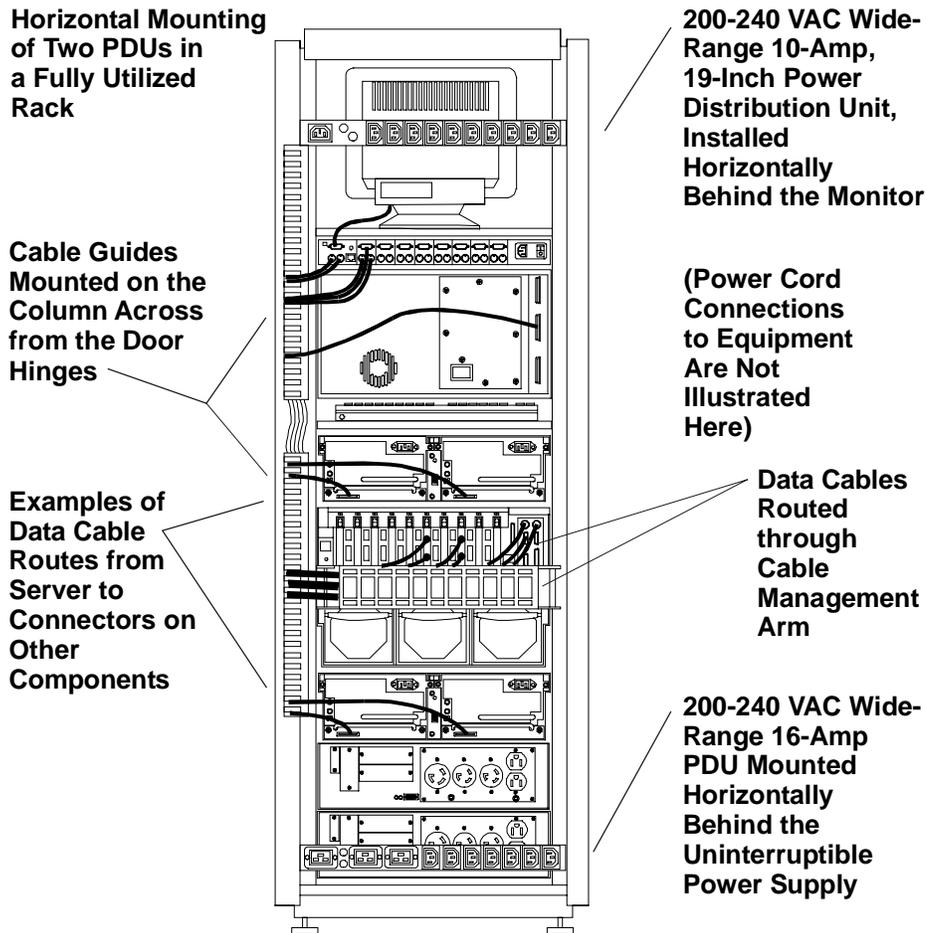

Figure 2-2. Mounting a Pair of PDUs Horizontally (Rear View)
- ◇ The wide-range 200/240 VAC PDU (HP product number E7671A) fits either horizontally between the columns of the rack or vertically along the outside edge of the vertical column. See Figure 2-2. This PDU is rated 16 amps and has six available C-13 receptacles and two C-19 receptacles.
The 200/240 VAC, wide-range Power Distribution Unit (PDU) can be mounted in several configurations with the LXr 8500. One of these configurations is shown in Figure 2-2. Others are listed and illustrated throughout Chapter 3.